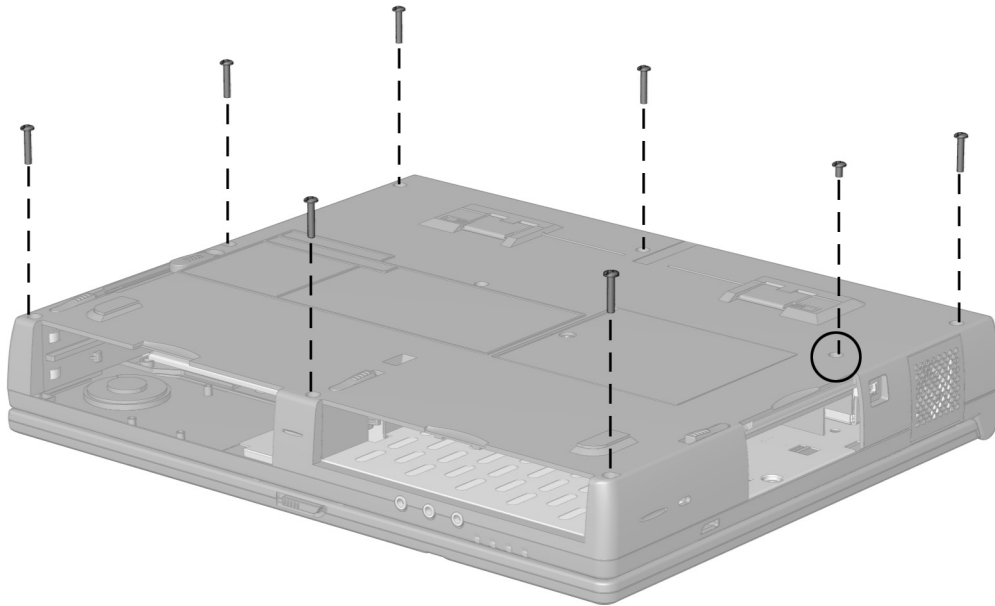

Figure 5-32. Removing the CPU Cover Screws
7. Remove the eight screws from the bottom of the computer (Figure 5-32).